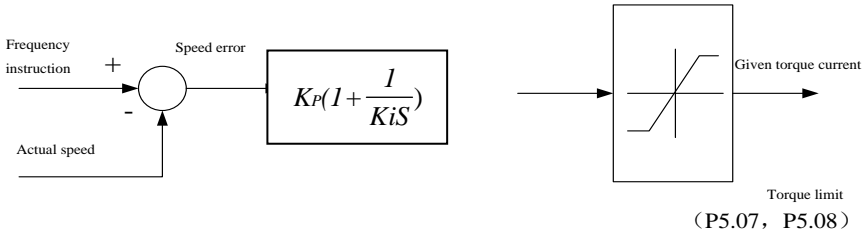

Fig. 6-14 Simplified block diagram of ASR
- a. Speed regulator (ASR)'s structure is shown in Fig.6-14, where K_P is proportional gain P, and K_I is integration time I.